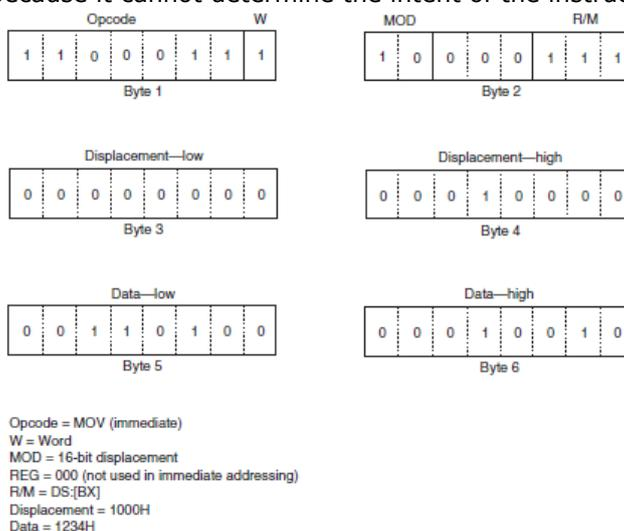

Figure 4-9: A MOV WORD PTR [BX+1000H],1234H instruction converted to binary machine language
- MOV WORD PTR [BX+1000H],1234 ;this instruction moves a 1234H into word-sized memory-location addressed by the sum of 1000H, BX and DS*10H (Figure 4-9).